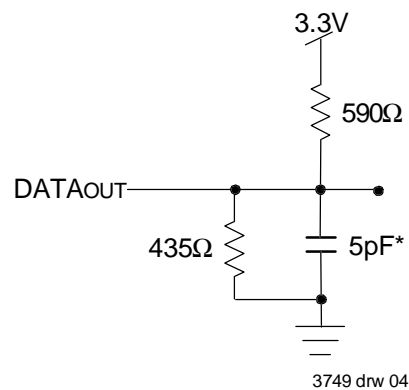

Figure 2. Output Test Load
1. Transition is measured $\pm 200mV$ from Low or High-impedance voltage with the Output Test Load (Figure 2).
1. Transition is measured $\pm 200\text{mV}$ from Low or High-impedance voltage with the Output Test Load (Figure 2).